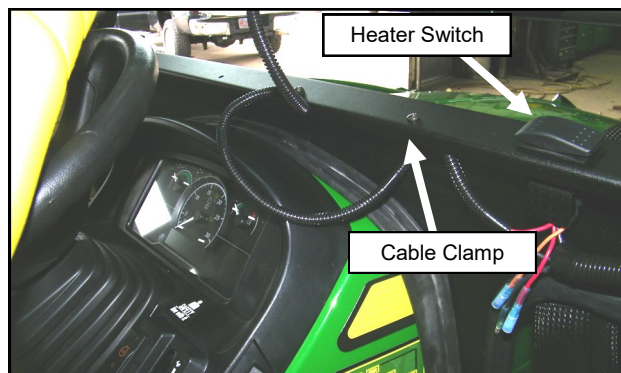

Fig. 15.4 (Secure Wire Harness)
15.4 Open the windshield and secure the wiring harness underneath the cowl using cable clamps. See figure 15.4.